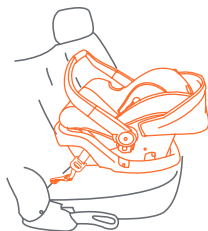

Fig. 51-1
- 1. Safety Seat with Base:** Make sure the vehicle is parked on level ground. Lock the Safety Seat onto the Base and check that the Safety Seat is level side to side on the vehicle seat (Fig. 51-1).